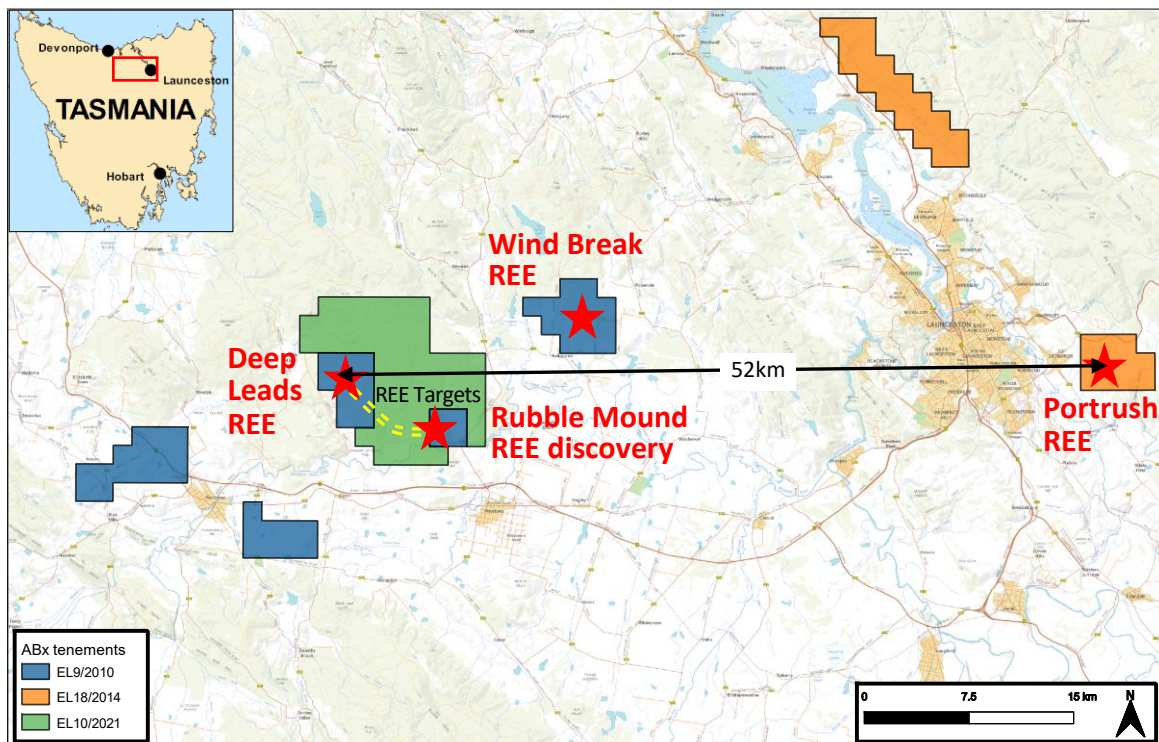

Figure 1: ABx leases in the 52km wide REE province. Deep Leads REE trends towards Rubble Mound (yellow dashes)
ABx Group Limited (ABX) is pleased to announce the discovery of a new rare earth element (REE) prospect at Rubble Mound in northern Tasmania (see Figure 1).
ABx is an emerging hi-technology and explorer-developer company that is the first company to discover clay-hosted REE in northern Tasmania, initially at Deep Leads. ABx's latest discovery at Rubble Mound confirms that ABx has at least four REE discoveries, as shown in Figure 1:
Deep Leads REE mineralisation extends over a 3.5km strike length and has a southeast trending line of lode heading towards Rubble Mound as shown in Figure 1 and 3.
**Figure 3:** Deep Leads drillholes with REE grades shown as total rare earth oxide (TREO). The geology of the line of lode is prospective for REE mineralisation over a distance of at least 6km from Deep Leads to Rubble Mound. This prospective ground is now secured by the recently granted tenement EL10/2021 (see Figure 1).